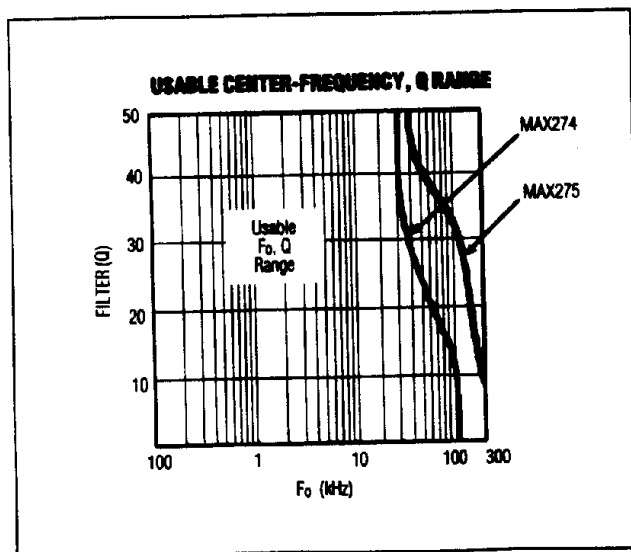

Figure 4. Usable F_o , Q Range. See Translating F_o/Q Pairs into Hardware (Resistor Selection).
1. Check all F_o/Q pairs for realizability. The MAX274/MAX275 have limits on which F_o/Q values can be implemented. These limits are bound by finite amplifier gain-bandwidth and amplifier load drive capability (which limit the highest frequency F_o /highest Qs) as well as amplifier noise pickup and susceptibility to errors caused by stray capacitance (which sets a low-frequency limit on the poles). Refer to Figure 4 to be sure each F_o/Q pair is within the "realizable" portion of the graph. If filter Qs are too high, reduce them by increasing the filter order (that is, increase the number of poles in the overall filter).
High-frequency F_o s (up to 400kHz) and high Qs outside of Figure 4's limits are also realizable, but F_o and Q will deviate significantly from the ideal. Adjust resistor values by prototyping.